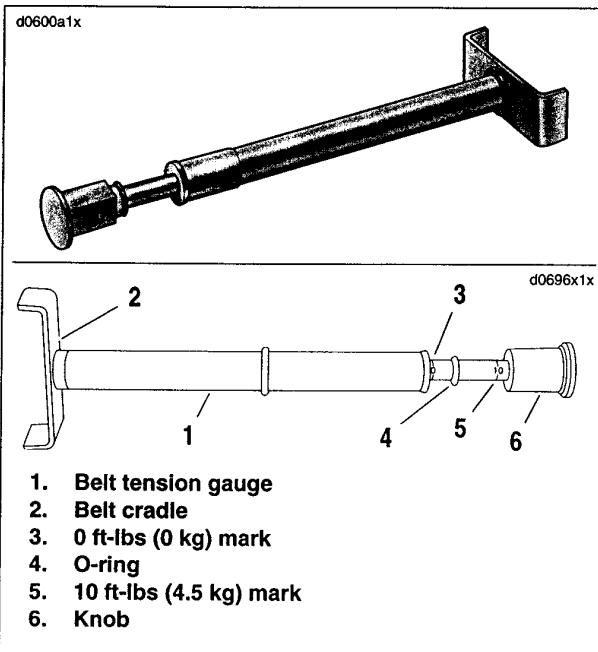

Figure 1-35. Belt Tension Gauge (Part No. HD-35381)
1. See Figure 1-35. Obtain BELT TENSION GAUGE (HD-35381).